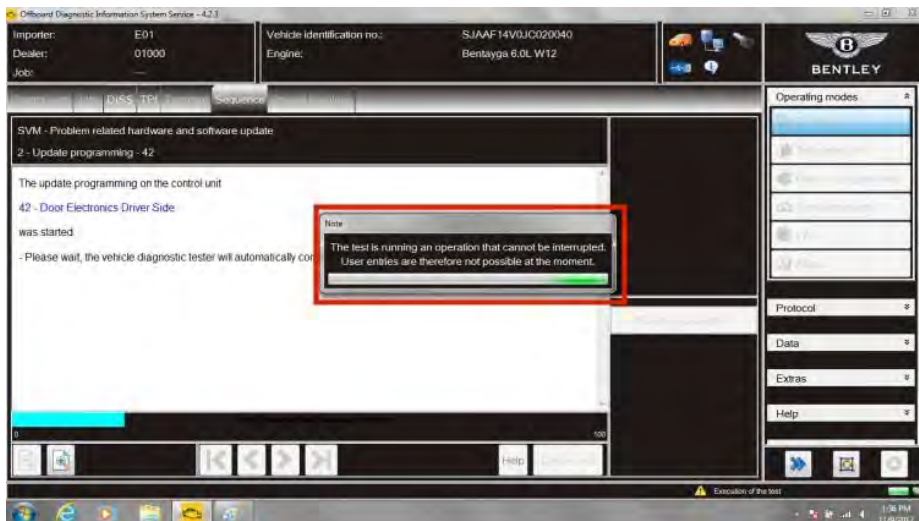

Figure 5
11. During the update a progress bar will be displayed. Note: the actual software load for all four control units will take approximately 30 minutes the two rear control units taking the majority of this time (see Figure 5)